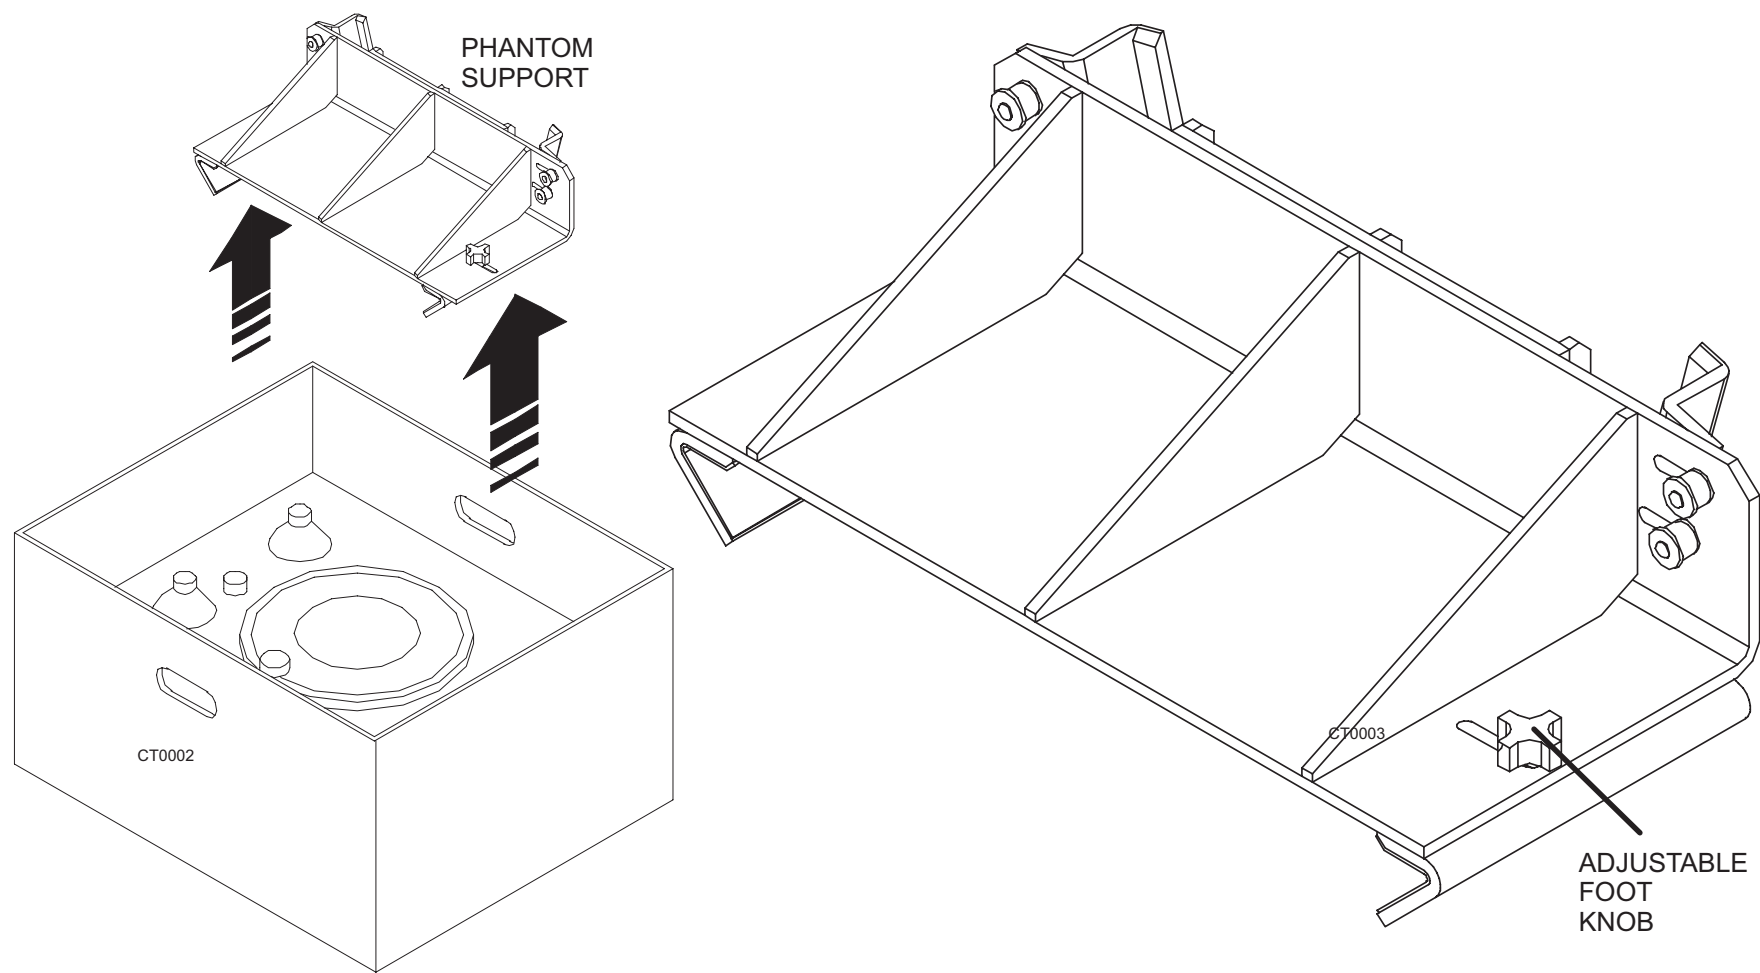

FIGURE 77 NEW PHANTOM SUPPORT
2. Loosen the adjustable foot knob to its maximum open position by turning the knob counterclockwise. Refer to Figure 77.